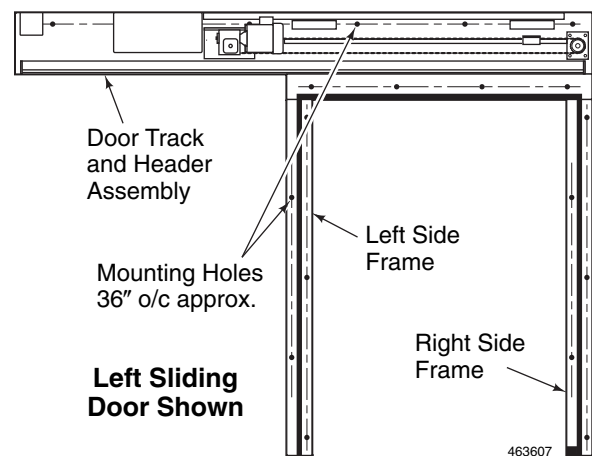

Figure 2
3. At job site, drill 5/16" holes in the frames and headers for mounting to the backing in the wall. Space holes 6" in from the end, then every 36". See Figure 2.
Attach the frames to the wall with the #18 x 4" Phillips flat head sheet metal screws and finish washers that are provided. Verify that the frames are still plumb and square to the door opening. See Figure 2.